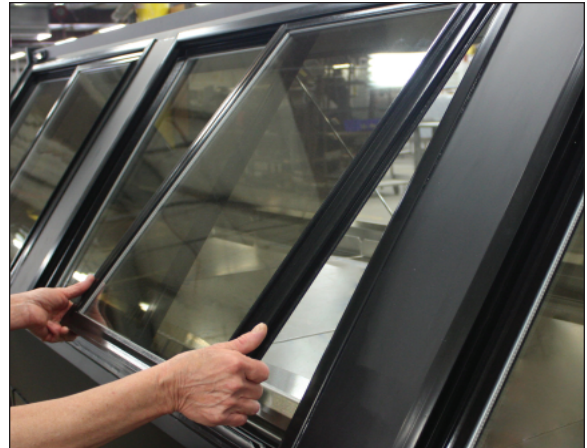

Fig. 12 Rear load door removal
1. Remove the rear sliding doors on the back of the case and clean. To remove: push up and pull out (Fig. 12).